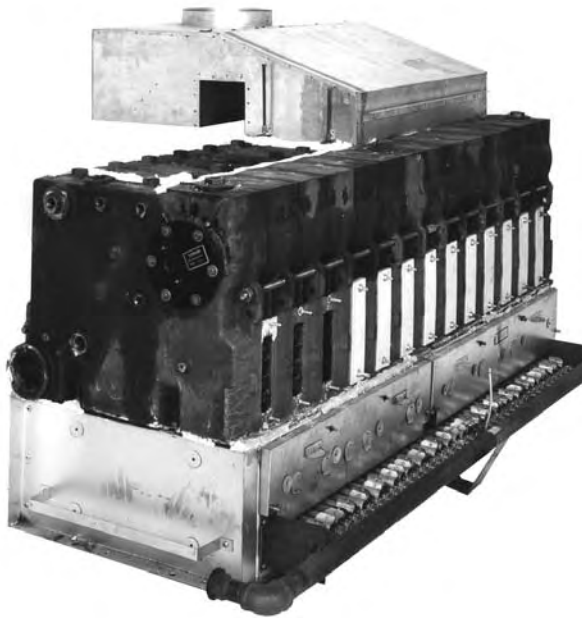

FIG. 10
12. SEAL BETWEEN BOILER SECTIONS AND BASE, see Fig. 10.